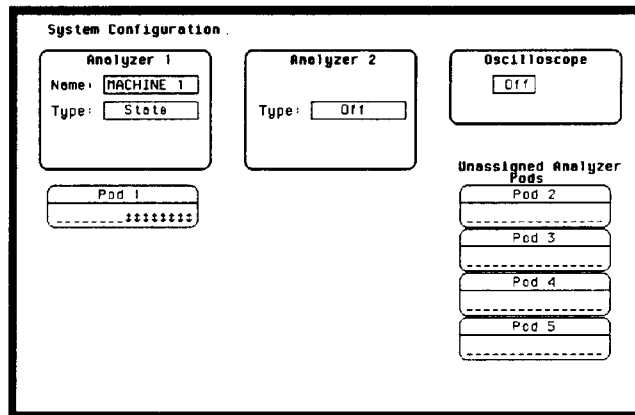

Figure 3-5. System Configuration for Data Test 1
- Assign the pod under test to **Analyzer 1** in the **System Configuration** menu as in figure 3-5. Refer to steps a through c if you are unfamiliar with menus.
- Assign the pod under test to **Analyzer 1** in the **System Configuration** as in the previous test figure 3-5.